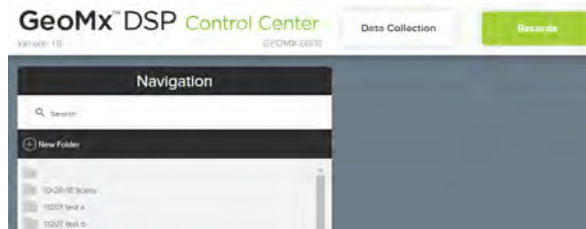

Figure 54: GeoMx DSP Control Center Navigation window under Records
1. Select the **Records** button in the DSP Control Center (see Figure 54).